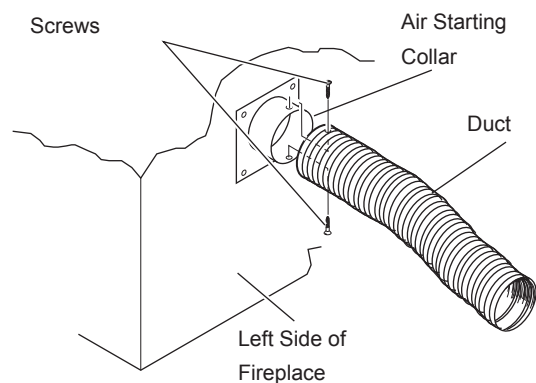

Figure 27 - Attaching Outside Duct to Starting Collar
4. Attach outside duct to starting collar with duct clamp or screws. *Figure 27*
6. Select and cut a piece of duct long enough to attach to the fireplace and stick out at least 3" beyond the face of the wall to which the AK-4 inlet air vent will be attached. *Figure 27*